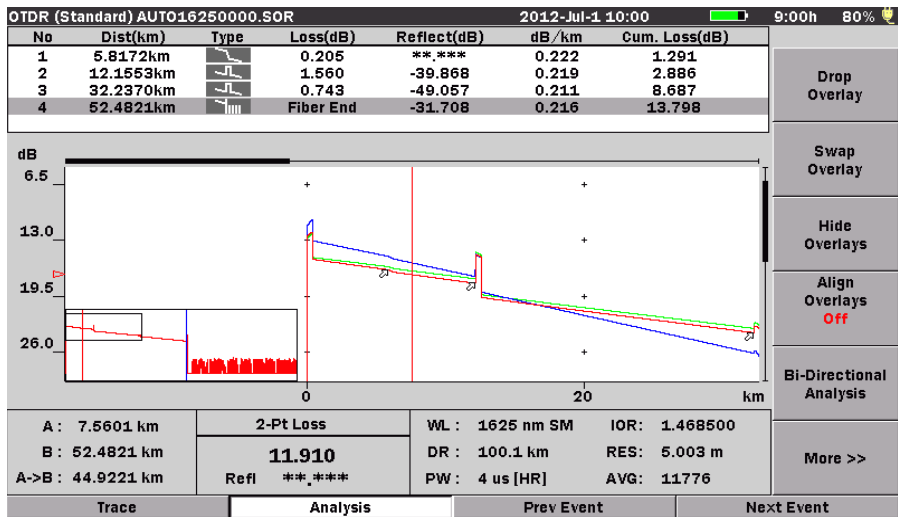

Figure 4-30: Trace Screen with Trace Overlay Softkeys
The Hide Overlays softkey is only available when there are overlay traces currently displayed, as shown in Figure 4-30 on page 4-86.
- **Align Overlays On** – When **Align Overlay** is toggled to **On**, all currently displayed Overlay traces are aligned to the same point on the screen as that of the intersection of the Primary trace and the cursor. See Figure 4-30 on page 4-86.